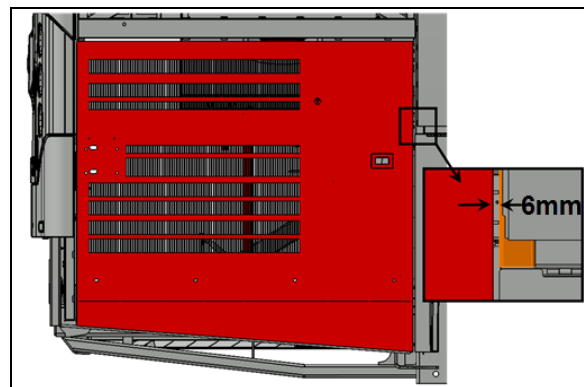

FIGURE 57
- Check the gap between the door and the adjacent panel at the level of the upper attachment point of the arm on the door. The gap should be 1/4" (6 mm) (FIGURE 57).